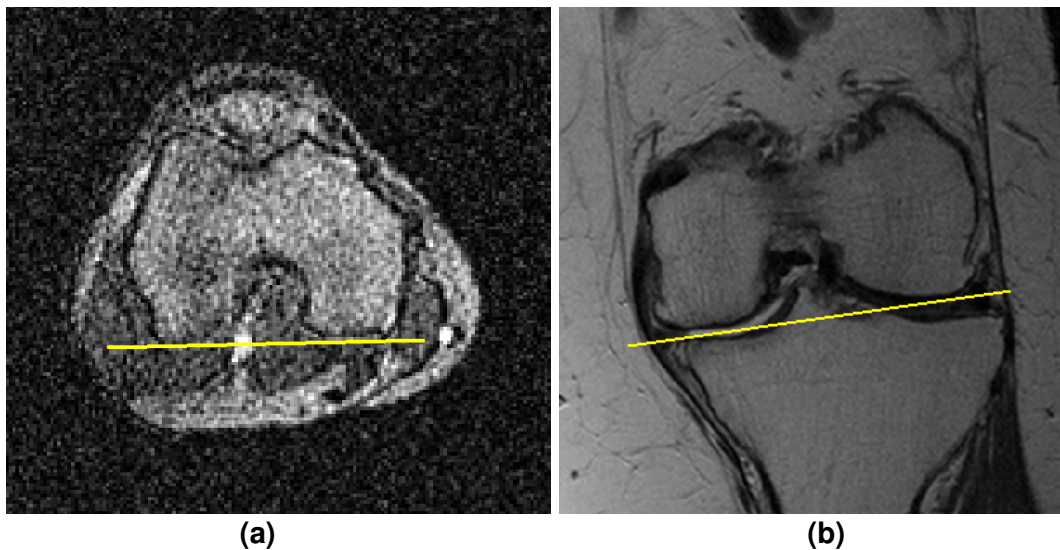

Figure 2
1. Using the best axial and coronal locator images that show in Figure 2 above